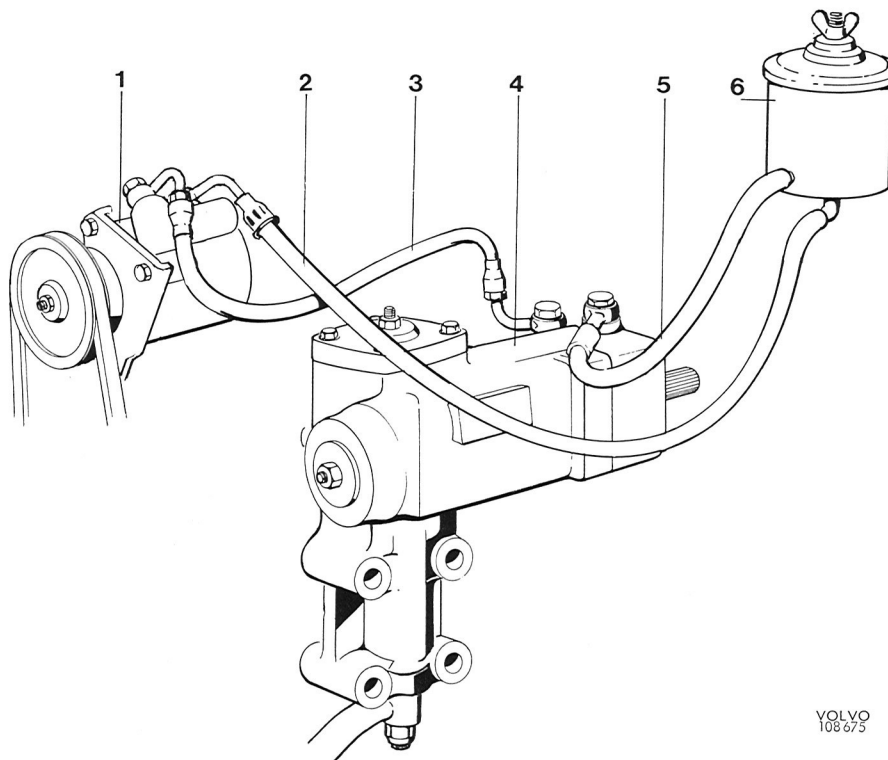
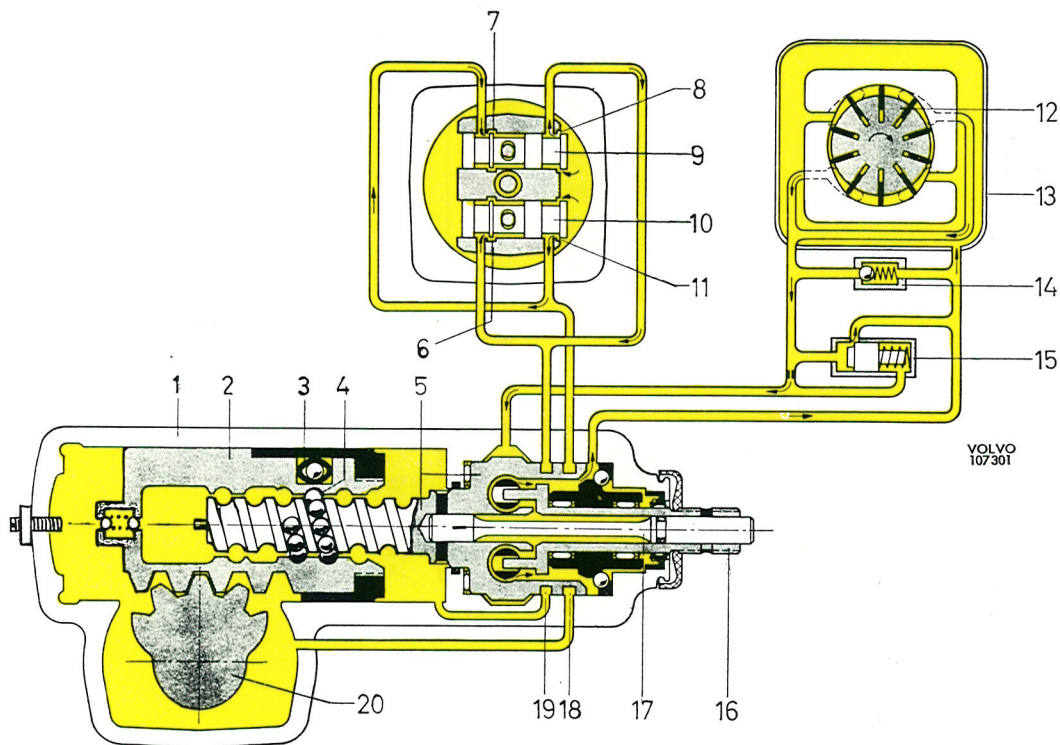

Fig. 6-43. Power steering
Fig. 6-44. Function, neutral position
This vehicle can be equipped with the ZF recirculating ball and nut type power steering. The main components of the power steering gear are: steering gear, power pump and oil reservoir with filter. These are connected to the various oil lines, see Fig. 6-43. The number of steering wheel turns from lock to lock is 3.7.
The power steering gear is of the ball nut type. In addition to the mechanical section, the power cylinder and control valves are built into the steering housing. The lower part of the steering housing (1, Fig. 6-44) is in the form of a cylinder in which the piston (2) is fitted. The piston is on one side formed as a rack gear which meshes with the tooth segment of the sector shaft (20).
The construction of the steering gear differs with regard to a left-hand steered and a right-hand steered vehicle in the location of the sector shaft and the steering cam thread. Fig. 6-43 shows the steering gear for left-hand steering while Figs. 6-44—6-46 show that for right-hand steering. The following description of the function applies to both.
Concerning references to numbers, see Fig. 6-44
The location of the steering valves as well as that of the oil flow are shown schematically in Figs. 6-44, 6-45 and 6-46. In order to illustrate more clearly how the valves are connected to the part of the housing where the power piston operates, a cross-section has been made through the steering valves in addition to the longitudinal section. Moreover, extra channels have been drawn to link up both sections.
Oil is conveyed under pressure from the pump into an annular chamber round the valve housing (the large circle in the cross-section). In the neutral position (Fig. 6-44) the valves (9 and 10) are so adjusted that oil can pass the intake ports (8 and 11) and flow on to the annular grooves (18 and 19) in the valve housing. From here the oil is led partly to both sides of the piston (2) through the channels (18 and 19), and partly — as long as the valves are in the neutral position — to both the return grooves (6 and 7) at the control valves. From the return grooves oil flows through the return channel back to the reservoir.